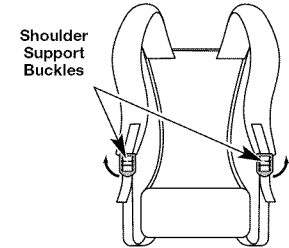

Fig. 13
1. Pull up on the bottom tabs of the shoulder support buckles to loosen the shoulder supports (Fig. 13).